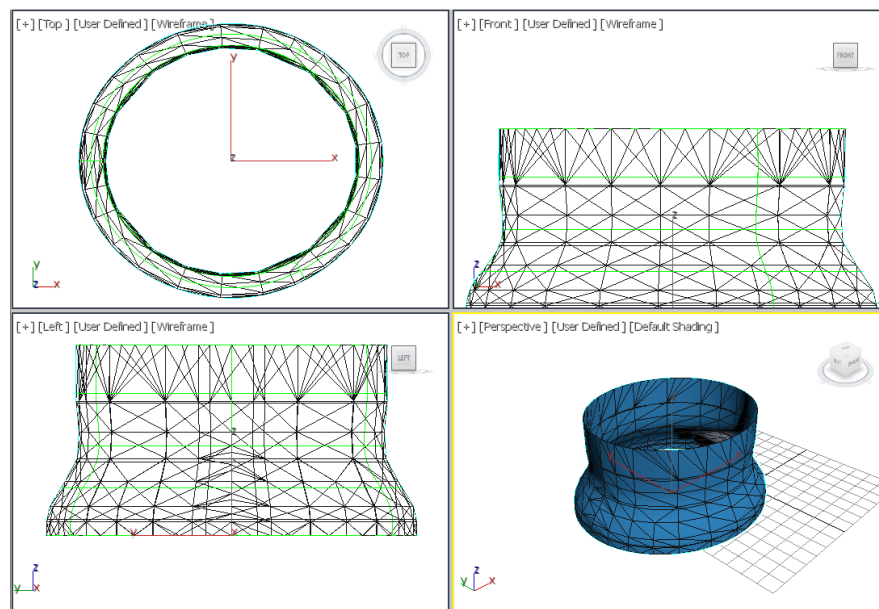

Figure 15-88 A NURBS surface created
3. Make sure the **General** rollout is expanded and choose the **NURBS Creation Toolbox** button; the **NURBS** toolbox is displayed. Now, choose the **Create U Loft Surface** button from the **Surfaces** section; the **U Loft Surface** rollout is displayed in the Modify panel. Next, move the cursor over *Circle001*; it turns blue. Now, click on it and then one-by-one click on *Circle002*, *003*, *004*, and *005* to add them into the U loft surface. Now, right-click to end the command. In the **U Loft Surface** rollout, select the **Flip Normals** check box. Next, right-click to exit the **U loft** command; a NURBS surface is created in the viewports, as shown in Figure 15-88.